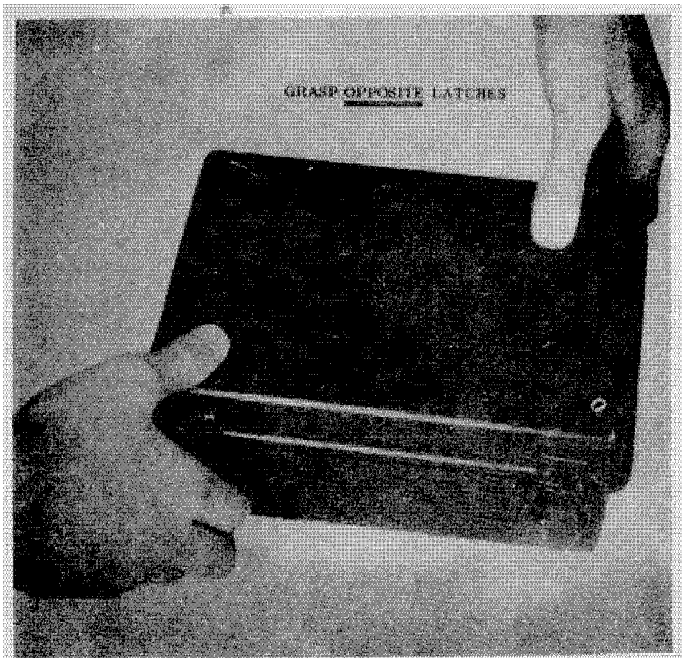

Figure 2-3. Removing KA-3 Keyer Adapter cover.
Step 1. Remove the KA-3 Keyer Adapter LID as shown in Figure 2-3. Grasp the trunk latches at opposite corners of the KA-3 and lift them up. (When replacing the LID, close the trunk latches at opposite corners. This prevents the rubber gasket front becoming distorted, maintaining the water-tight sea.) Open and remove the KE8B and CA4B LIDS by